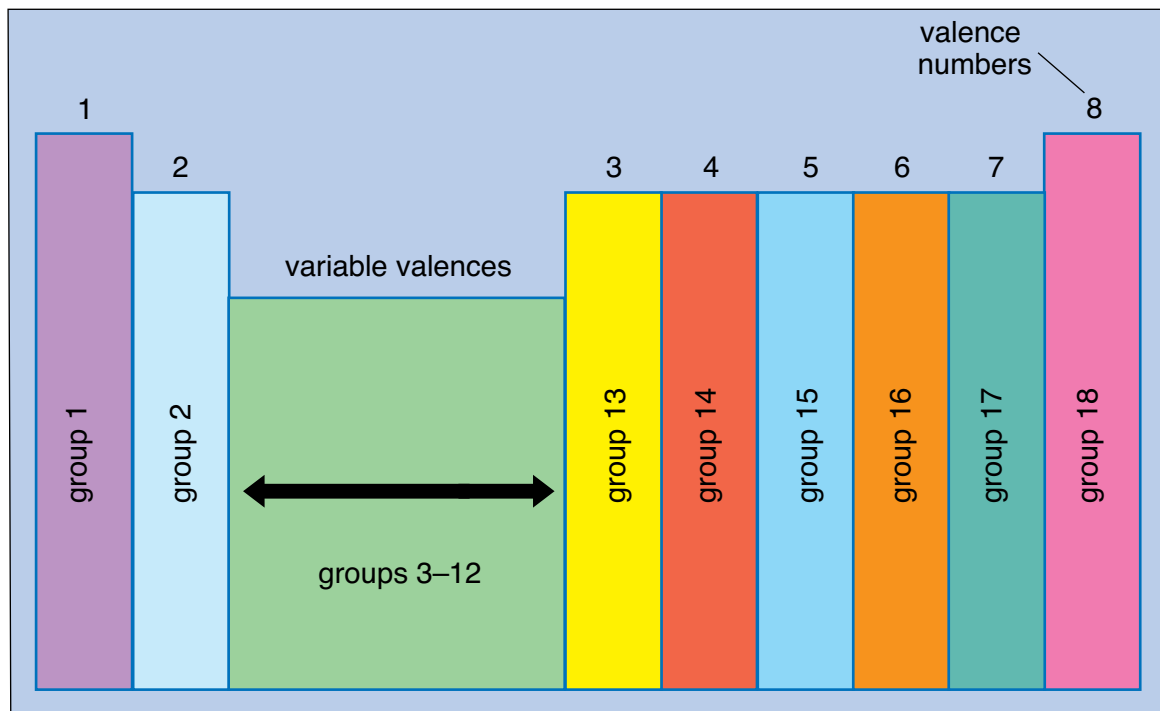

Figure 2
- c. Look at the periodic table and compare it to Figure 2, which shows the number of valence electrons for elements in groups 1 and 2 and 13 through 18. Determine how many valence electrons are found in nitrogen (N). You will see that N has five valence electrons.